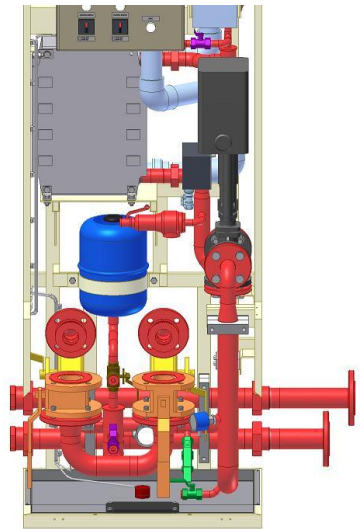

Figure 3.1-8
- Valves V161...V162 open (violet colour in Figure 3.1-8)
- Valve V160 lever down (brown colour in Figure 3.1-8)
- Valves V140...V141 closed (yellow colour in Figure 3.1-8)
- Valves V142...V143 open (orange colour in Figure 3.1-8)
- Valves V210...V212 closed (green colour in Figure 3.1-8)